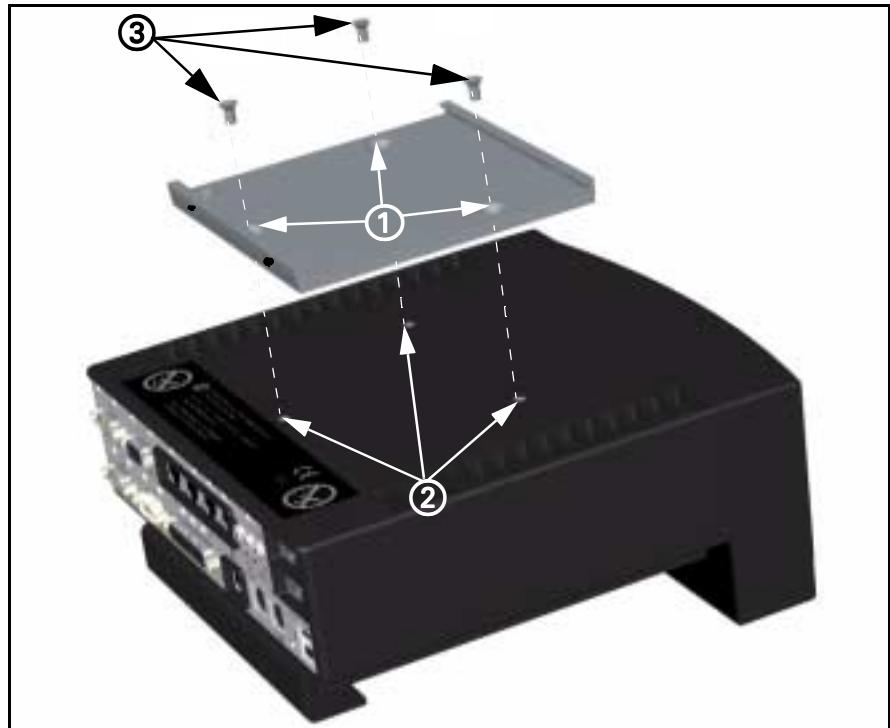

Figure 10-1 MDS with mounting bracket
- Align mounting bracket screw holes (① in Figure 10-1) to screw holes on top of MDS (② in Figure 10-1).
- Insert and tighten 3 Phillips-head screws (supplied, ③ in Figure 10-1).